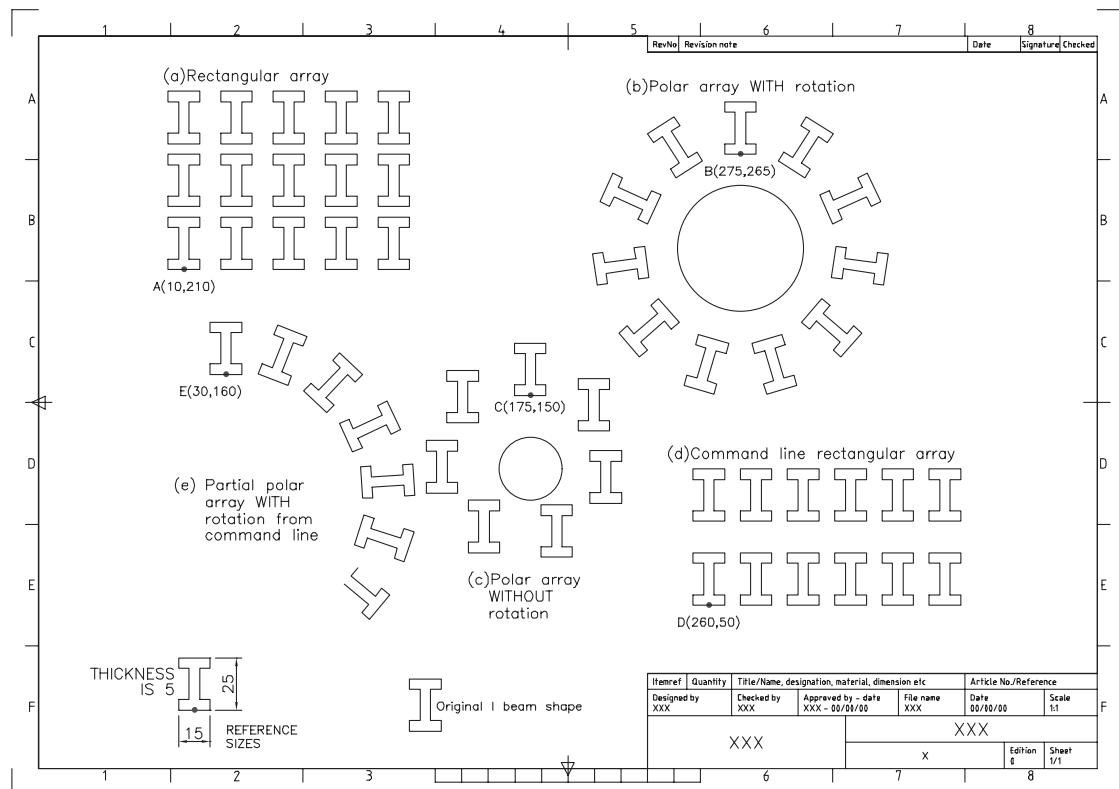

Figure 22.1 Using the ARRAY command.
- 2 a) Refer to Figure 22.1 and draw the I-BEAM shape using the given reference sizes
Note that the donuts in Figure 22.1 are for reference only.
- 2 The shape at A will be copied 14 times into a three-row and five-column matrix pattern as Figure 22.1(a).
b) The objects are 'rotated' about the centre point as they are copied – Figure 22.1(b).
b) The selected objects are not ‘rotated’ as copied – Figure 22.1(c).
- 3 The shape at D will be copied into a 2×6 column matrix pattern as Figure 22.1(d).
g) the result is Figure 22.1(e).
- 2 Your drawing should now resemble Figure 22.1 and can be saved if required.
- 1 Both the rectangular and polar array commands have variations to those displayed in Figure 22.1.